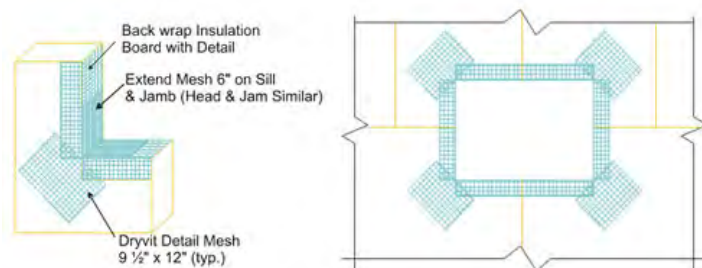

Figure 19
19. Corners of all openings such as windows, doors, mechanical equipment and all penetrations shall be reinforced with Detail Mesh placed diagonally to the opening as illustrated in Figure 19.